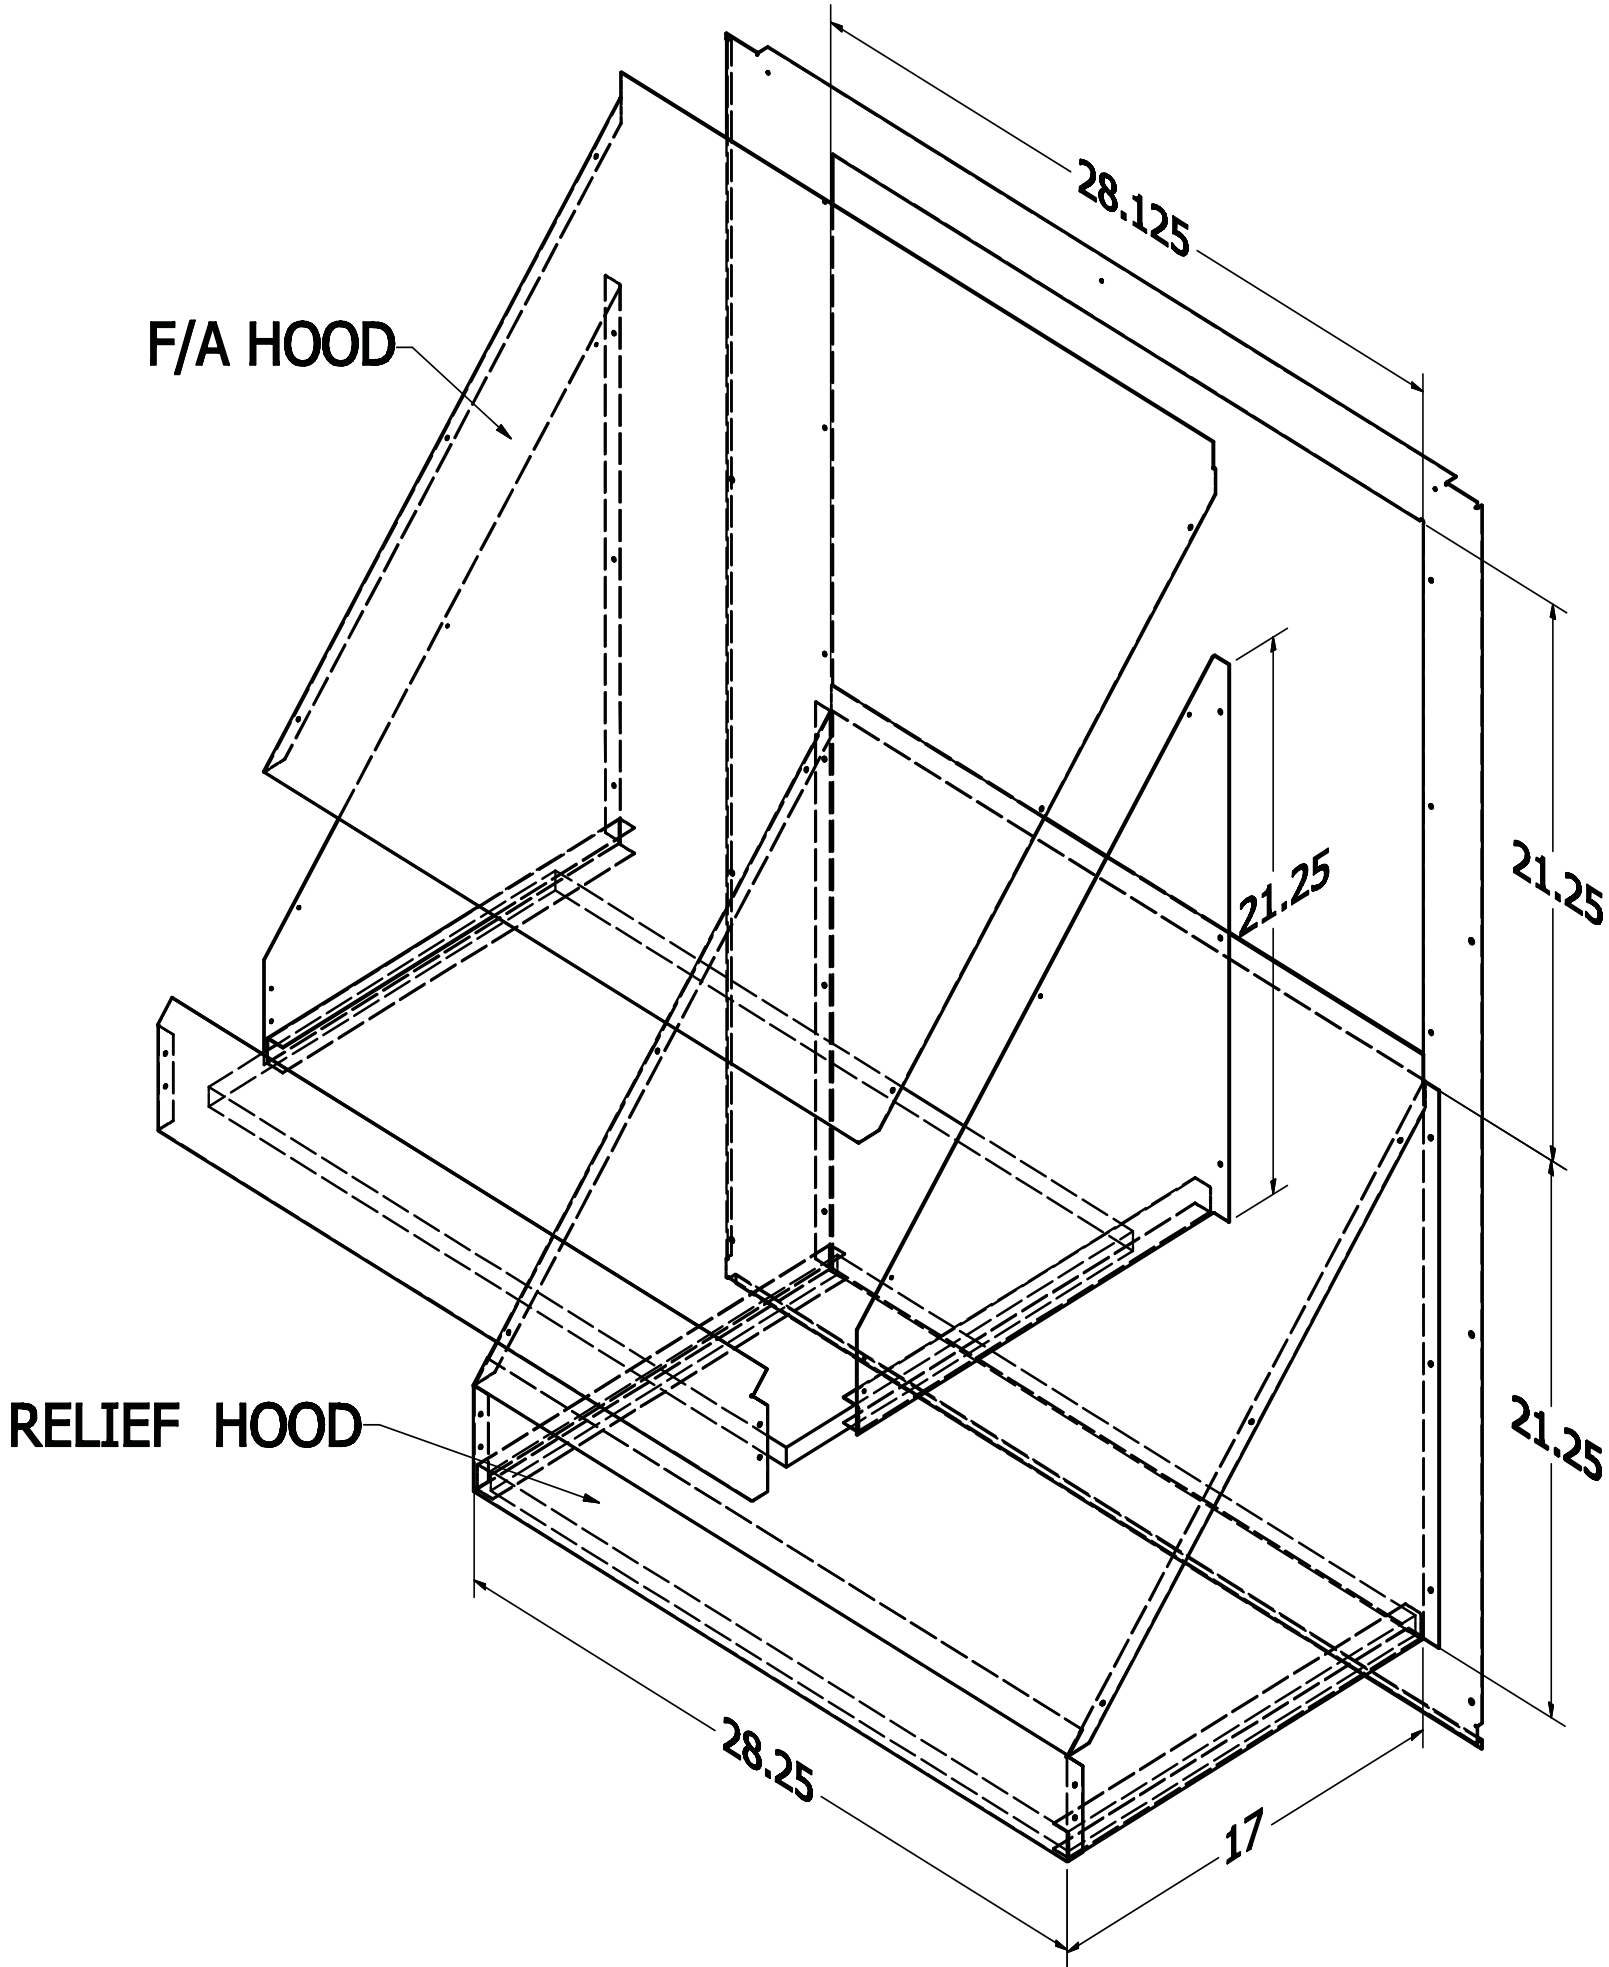

Figure 3
- 8. Assemble the barometric relief hood and the fresh air hoods with the screws provided. Be sure to install the mist eliminators before installing the front filter access piece. (See FIGURE 3)